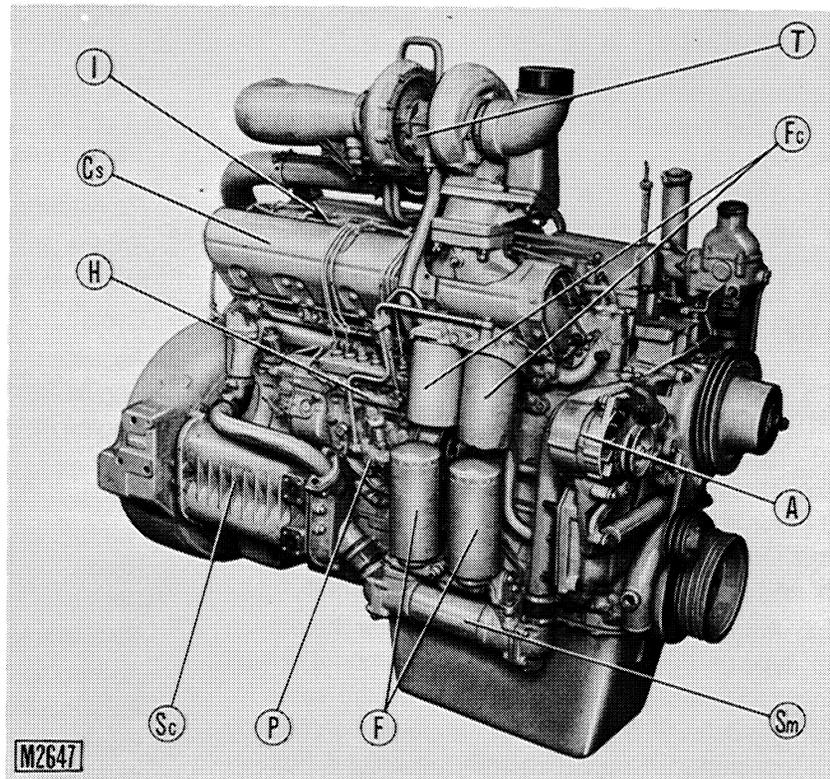

Fig. 3 - RH view of engine 8215.22. ...
1.3.2 VIEW OF EXTERNAL ENGINE COMPONENTS, R.H. SIDE (Figs. 3 and 5)